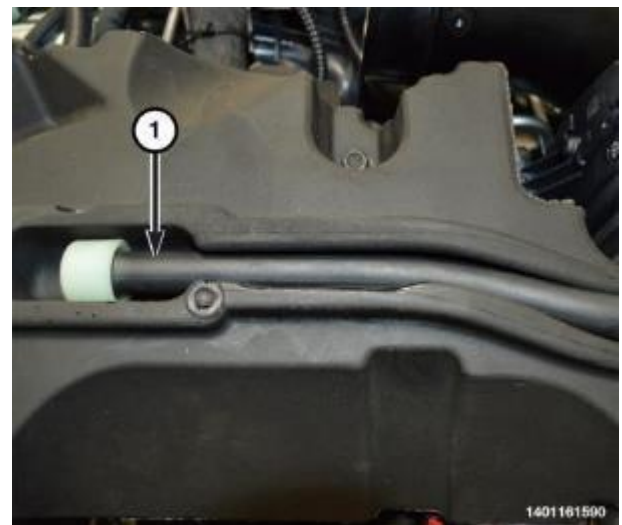

Figure 10 – Left Bank Fuel Rail Cover
17. Remove the vent hose (1) from the left fuel rail cover (Figure 10).